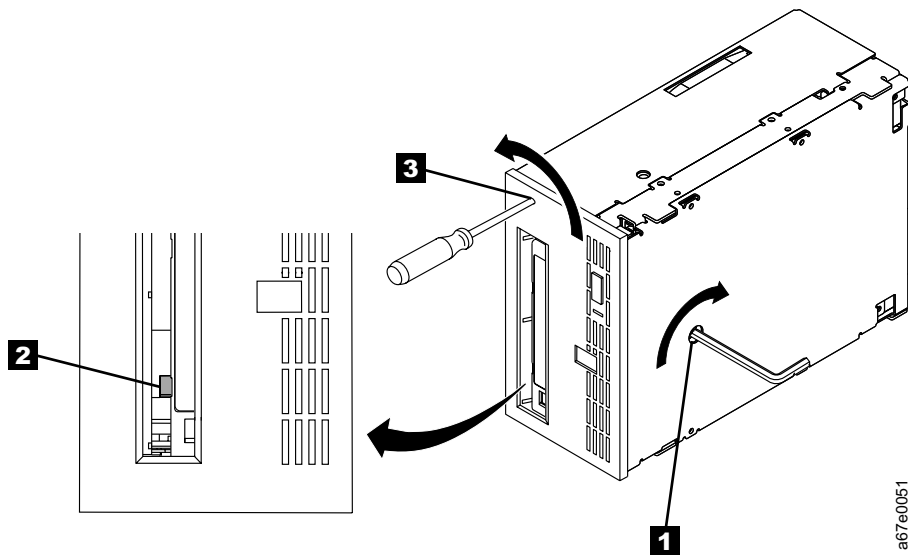

Figure 23. Determining Whether the Tape is Broken
1. Place the drive so that the front faces you, then tilt it on its left side (see Figure 23).
2. Locate the access hole at the bottom of the unit (see **1** in Figure 23).